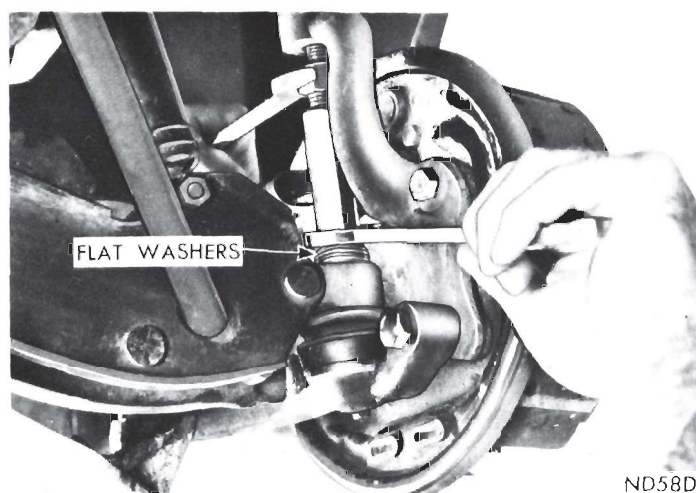

Fig. 23—Removing Upper Ball Joints Stud (Valiant-Barracuda)
(1) Place a jack under lower control arm as close to wheel as possible and raise vehicle until wheel clears floor.
(2) Remove wheel and tire as an assembly.
(3) On Valiant and Satellite models, remove upper and lower ball joint stud nuts using Tool C-3711. On Valiant models, it may be necessary to add approximately 7/16 inch of flat washers over lower ball joint stud to allow the use of Tool C-3711 without damaging threads on lower ball joint stud. Place Tool C-3711 over stud. Turn threaded portion of tool locking it securely against the upper stud (Fig. 23).
(1) Raise vehicle by placing a jack under lower control arm as close as possible to wheel.
(2) Remove wheel, tire and drum.
(3) On Satellite and Valiant Models, remove upper and lower ball joint stud nuts. On Valiant models, it will be necessary to add approximately 7/16" of flat washers over lower ball joint stud to allow the use of Tool C-3711 without damaging threads on lower ball joint stud. Place Tool C-3711 over studs. Turn threaded portion of tool locking it securely against upper stud (Fig. 23). To use Tool C-3711 as outlined it will be necessary to modify it, as shown in Figure 24.
(4) Spread tool enough to place upper stud under a load, then strike steering knuckle sharply with a hammer to loosen stud. **Do not attempt to force stud out of steering knuckle with tool alone.**
(6) Remove tool, then remove ball joint stud from steering knuckle.